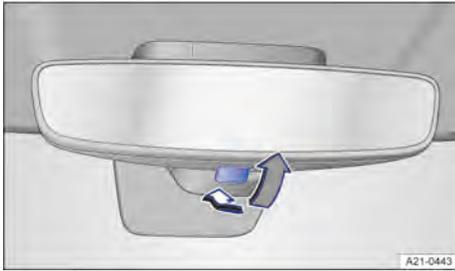

Fig. 92 On the headliner: manual anti-dazzle interior mirror.
- Pull the lever back to select the anti-dazzle function → Fig. 92.